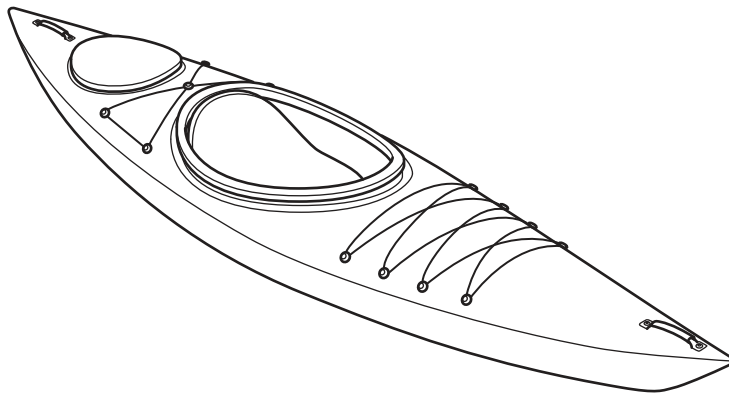

Figure 2.1
- 2 (a) Figure 2.1 shows a kayak produced by rotational moulding.